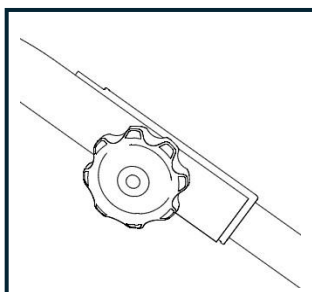

FIG 3B
2. Tighten the knob to securely connect the upper and lower handlebars, as shown in Figure 3B.